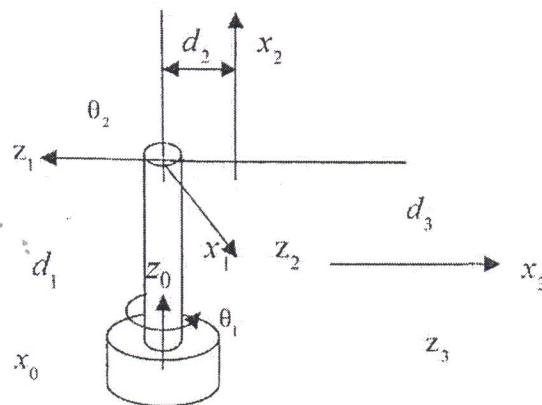

Figure 2: A Spherical Arm
- (d) **Figure 2** shows a spherical arm with two rotary joints and a prismatic joint. The corresponding arm parameters and the forward kinematics are given in **Table 1** and **Equation 1**. Find the equation of inverse kinematics of d_3 , θ_1 and θ_2 .